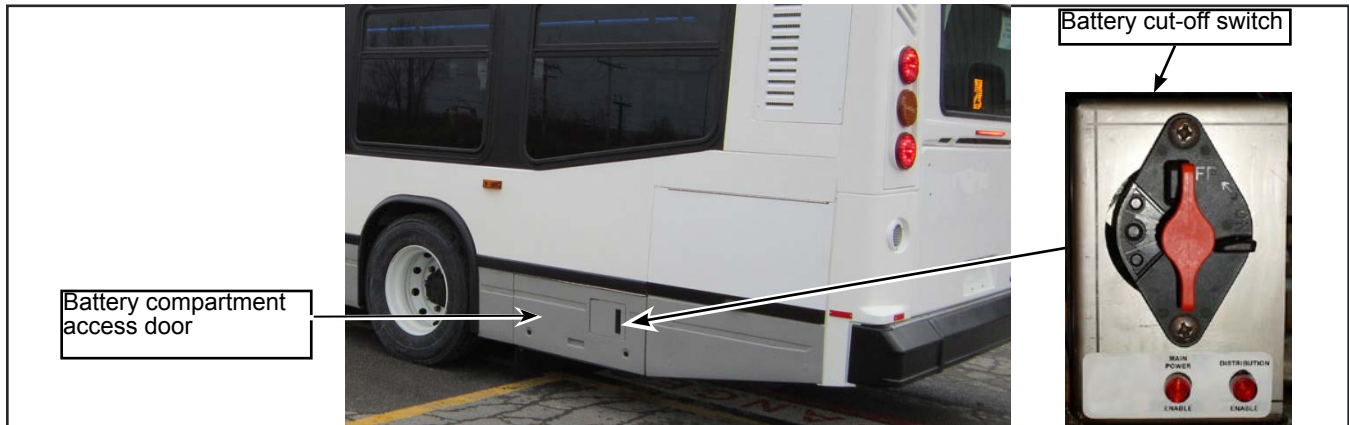

Figure 1 - Battery Compartment Access Door
- 1.1. Open the battery compartment access door, Ensure that the vehicle's power supply has been deactivated by turning off the battery cut-off switch (see Figure 1).